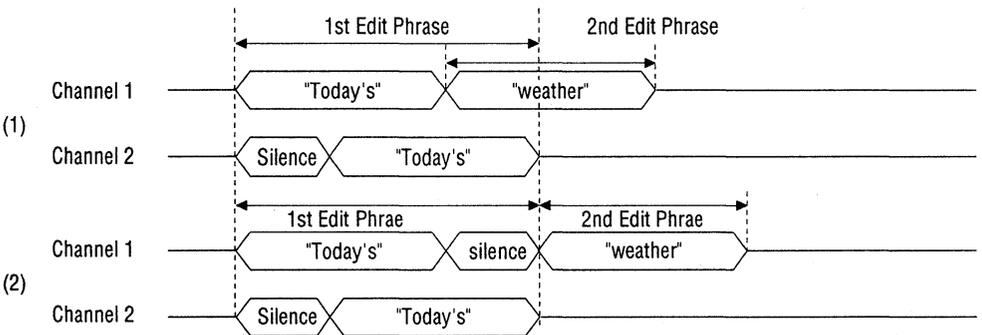

Figure 9.2 Example of Random Vocalization Timing
However, this occurs only when the channel setting of the 1st and 2nd edit phrase are the same, and when echo regeneration and channel 2 regeneration are not performed. For example, if the 1st edit phrase is echo regeneration, and the 2nd edit phrase channel 1 regeneration, as shown in Figure 9.2 (1), 2 edit phrases overlap.
To avoid this, insert silence to channel 1, as shown in Figure 9.2 (2), and set edit data ROM so that channels 1 and 2 end regeneration at the same time.